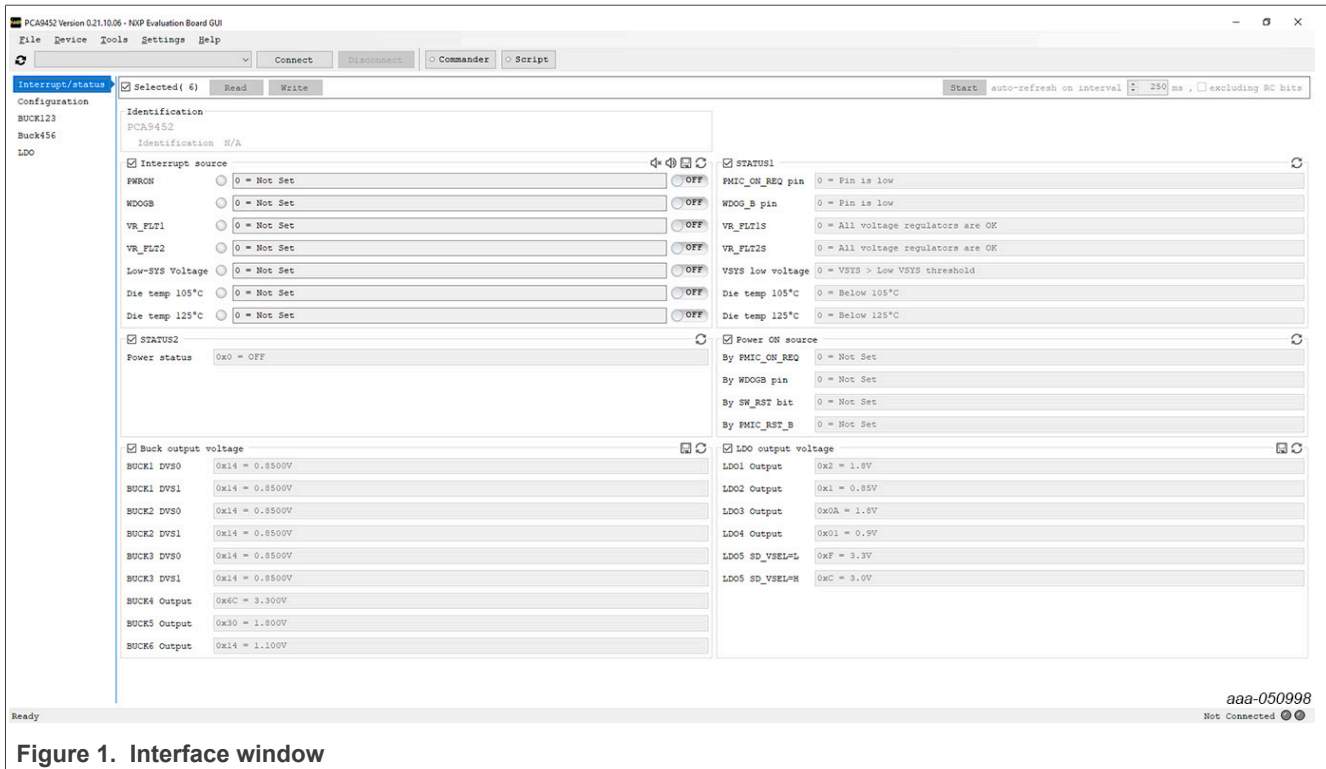

Figure 1. Interface window
- Run the file PCA9452.exe. The interface window is shown in Figure 1.